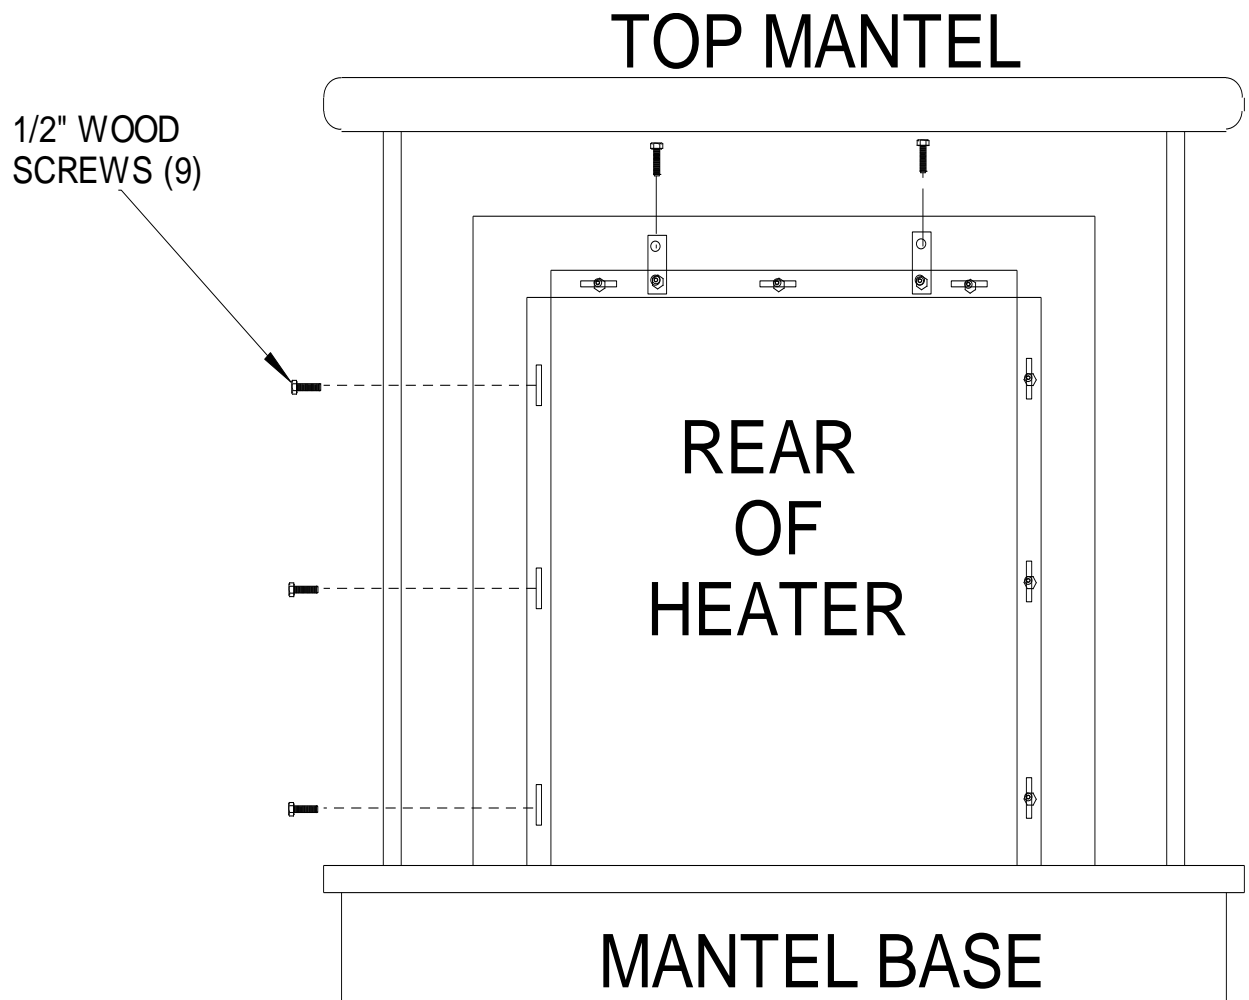

FIGURE 6
- (5) Center heater in opening of mantel. See Figure 6.
- (6) Fasten mantel to hearth by using ½" wood screws.
- (7) Insert nine (9) ½" wood screws provided with mantel through slots on nailing flange and secure in place. See Figure 6.
- (8) Position mantel and fireplace into desired location.
- (9) To light heater, see “Lighting Instructions” pages 19 through 30. Make sure you have right gas valve for Natural or LP gas.